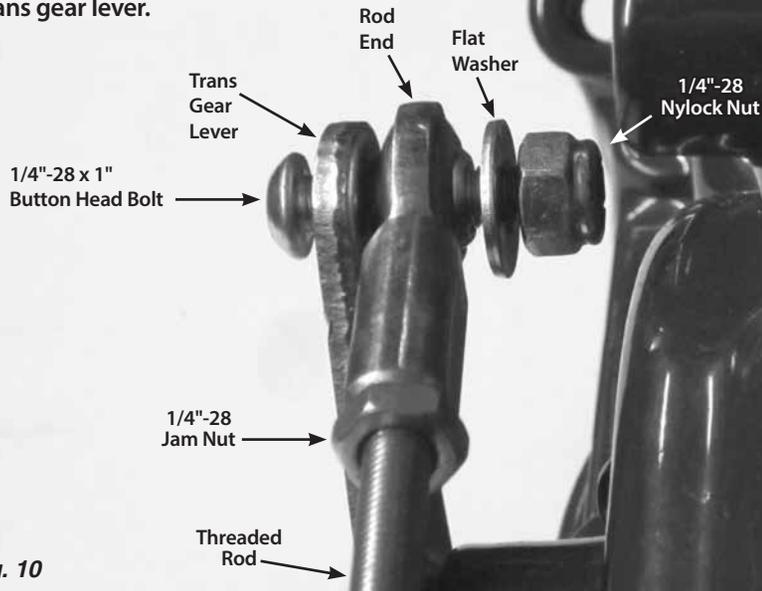

Fig. 10
**Step 14:** Verify that both 1/4"-28 jam nuts are on the threaded rod, and install a rod end onto each end of the threaded rod. Attach the threaded rod assembly to the **inside** of the trans gear lever and to the **outside** of the quad lever using the 1/4"-28 x 1" button head bolts, flat washers, and nylock nuts as shown in Fig. 9 and Fig. 10. The button head bolts can be installed from either direction, but make sure the rod end is sandwiched between the flat washer and the trans gear lever or quad lever.